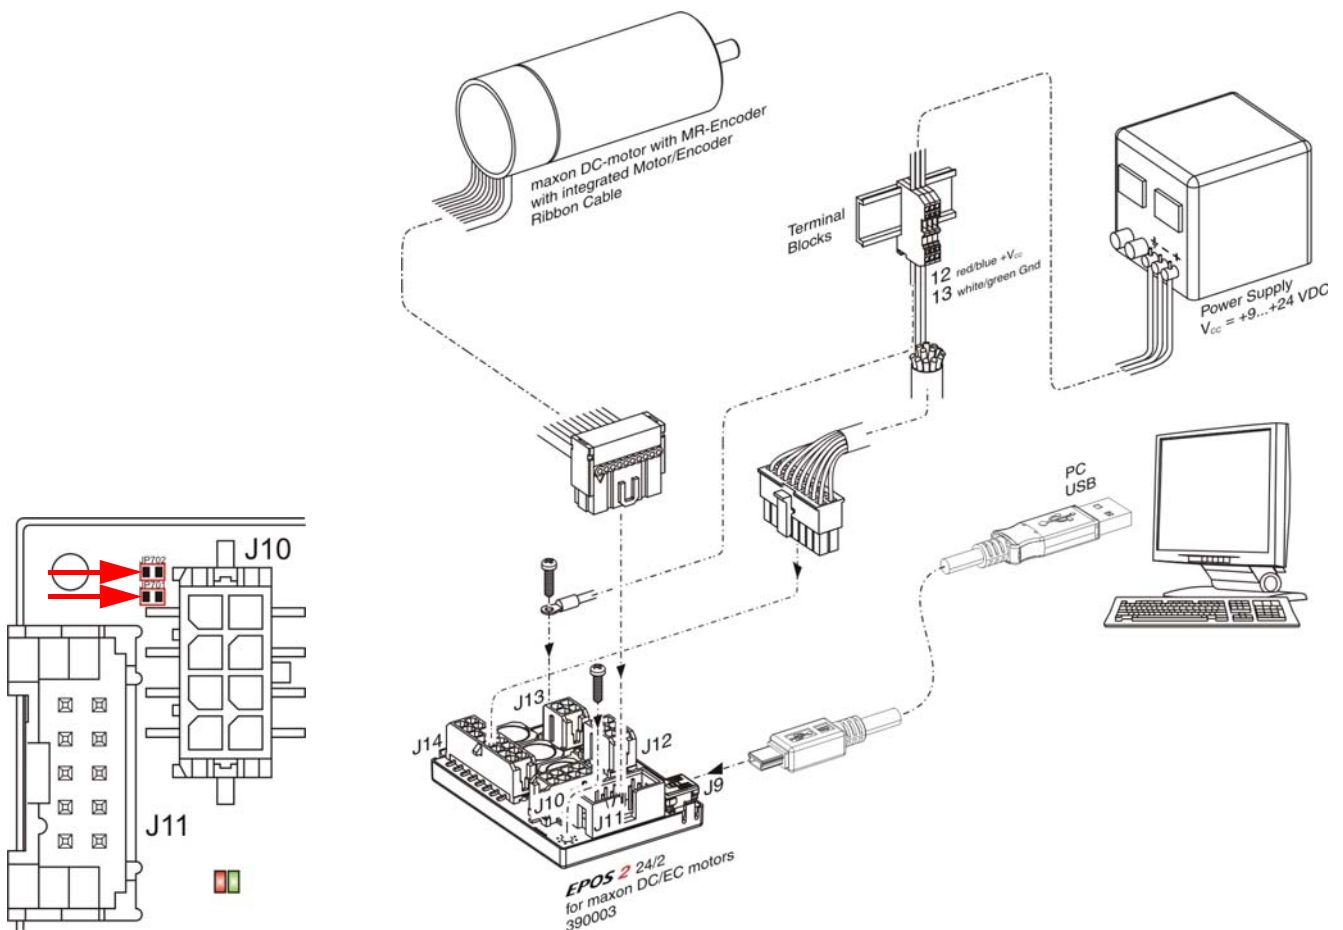

Figure 3-5 Minimum Wiring: maxon DC motor (integrated Motor/Encoder Ribbon Cable)
- 2) Bridge **both** solder pad pairs (→Figure 3-5, left).
- 3) Connect maxon cable assemblies (→Table 3-7 and Figure 3-5).